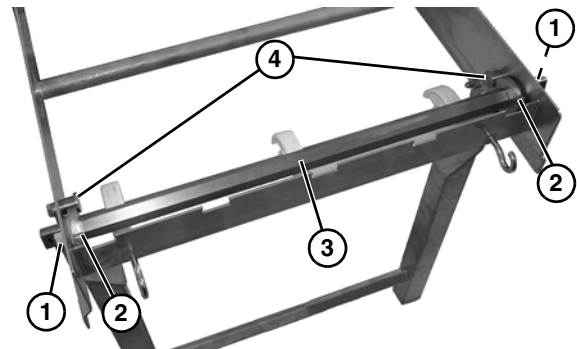

Figure 21
4. Slide the tip up sleeves (**Figure 21, item 1**) and stop keys (**Figure 21, item 1**) outward on hex shaft assembly (**Figure 21, item 3**) until the sleeves seat in the holes of the frame and stop keys are seated against frame stops (**Figure 21, item 4**).